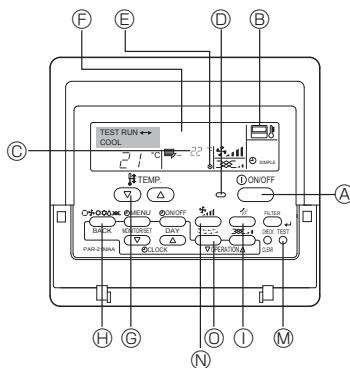

Fig. 7-1
7.2.1. Using wired remote controller (Fig. 7-1)
- ① Turn on the power at least 12 hours before the test run.
- ② Press the [TEST] button twice. "TEST RUN" liquid crystal display
- ③ Press the [Mode selection] button and switch to the cooling mode.
- ④ Press the [Fan speed] button. → Make sure that the wind speed is switched.
- ⑤ Press the [Air direction button] or [Louver button].
- ⑥ Check operation of the outdoor unit fan.
- ⑦ Release test run by pressing the [ON/OFF] button. → Stop
- ⑧ Register a telephone number.